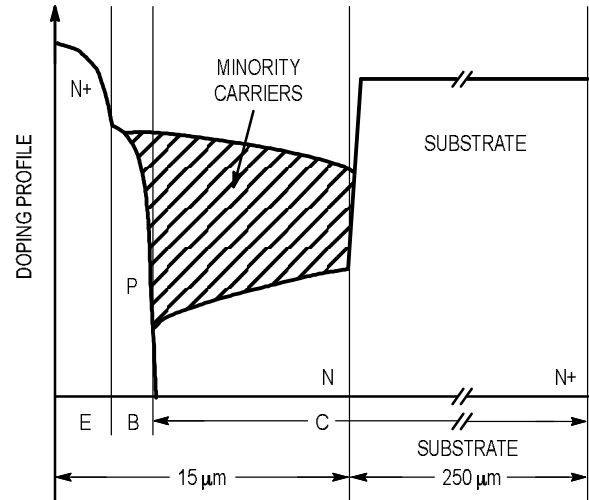

Figure 4. Minority Carriers Distribution During Saturation Condition
2. The drop of resistivity of the base and collector areas allows very low collector to emitter voltage, even if the current density is high (V_{CEsat}). See Figure 4.
During the saturation phase, the base and the collector areas are filled with minority carriers. This reduces the resistivity of the silicon and provide low losses (Figure 4).